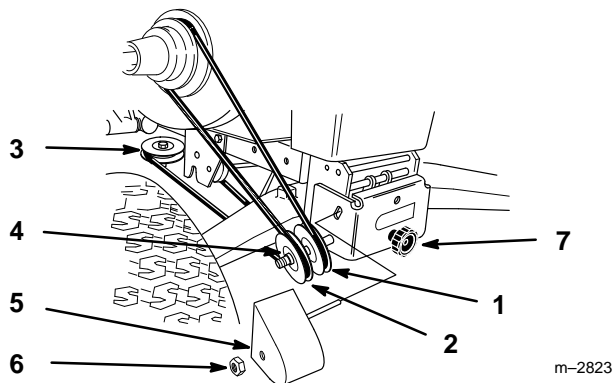

Figure 9
15. Route belt around V and flat pulleys and loop over center mower spindle, top pulley.(Fig. 9).
16. Check that spacer is on shaft and install belt cover with rod in hole. Secure with locknut (Fig. 9).
17. Turn knob counterclockwise to tighten belt (Fig. 9). Tighten until there is 1" (26 mm) belt movement between engine clutch and idler pulley when slight pressure is applied to the belt.